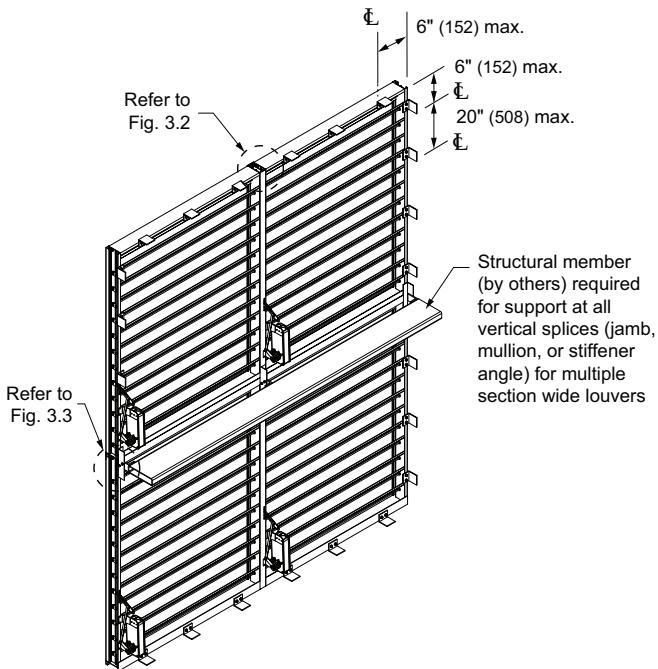

Fig. 3.1 Clip Angle - Multiple Section Louver
1. Locate and anchor clip angles as shown in fig. 3.1. (Clip angles are by others or optional by Pottorff).